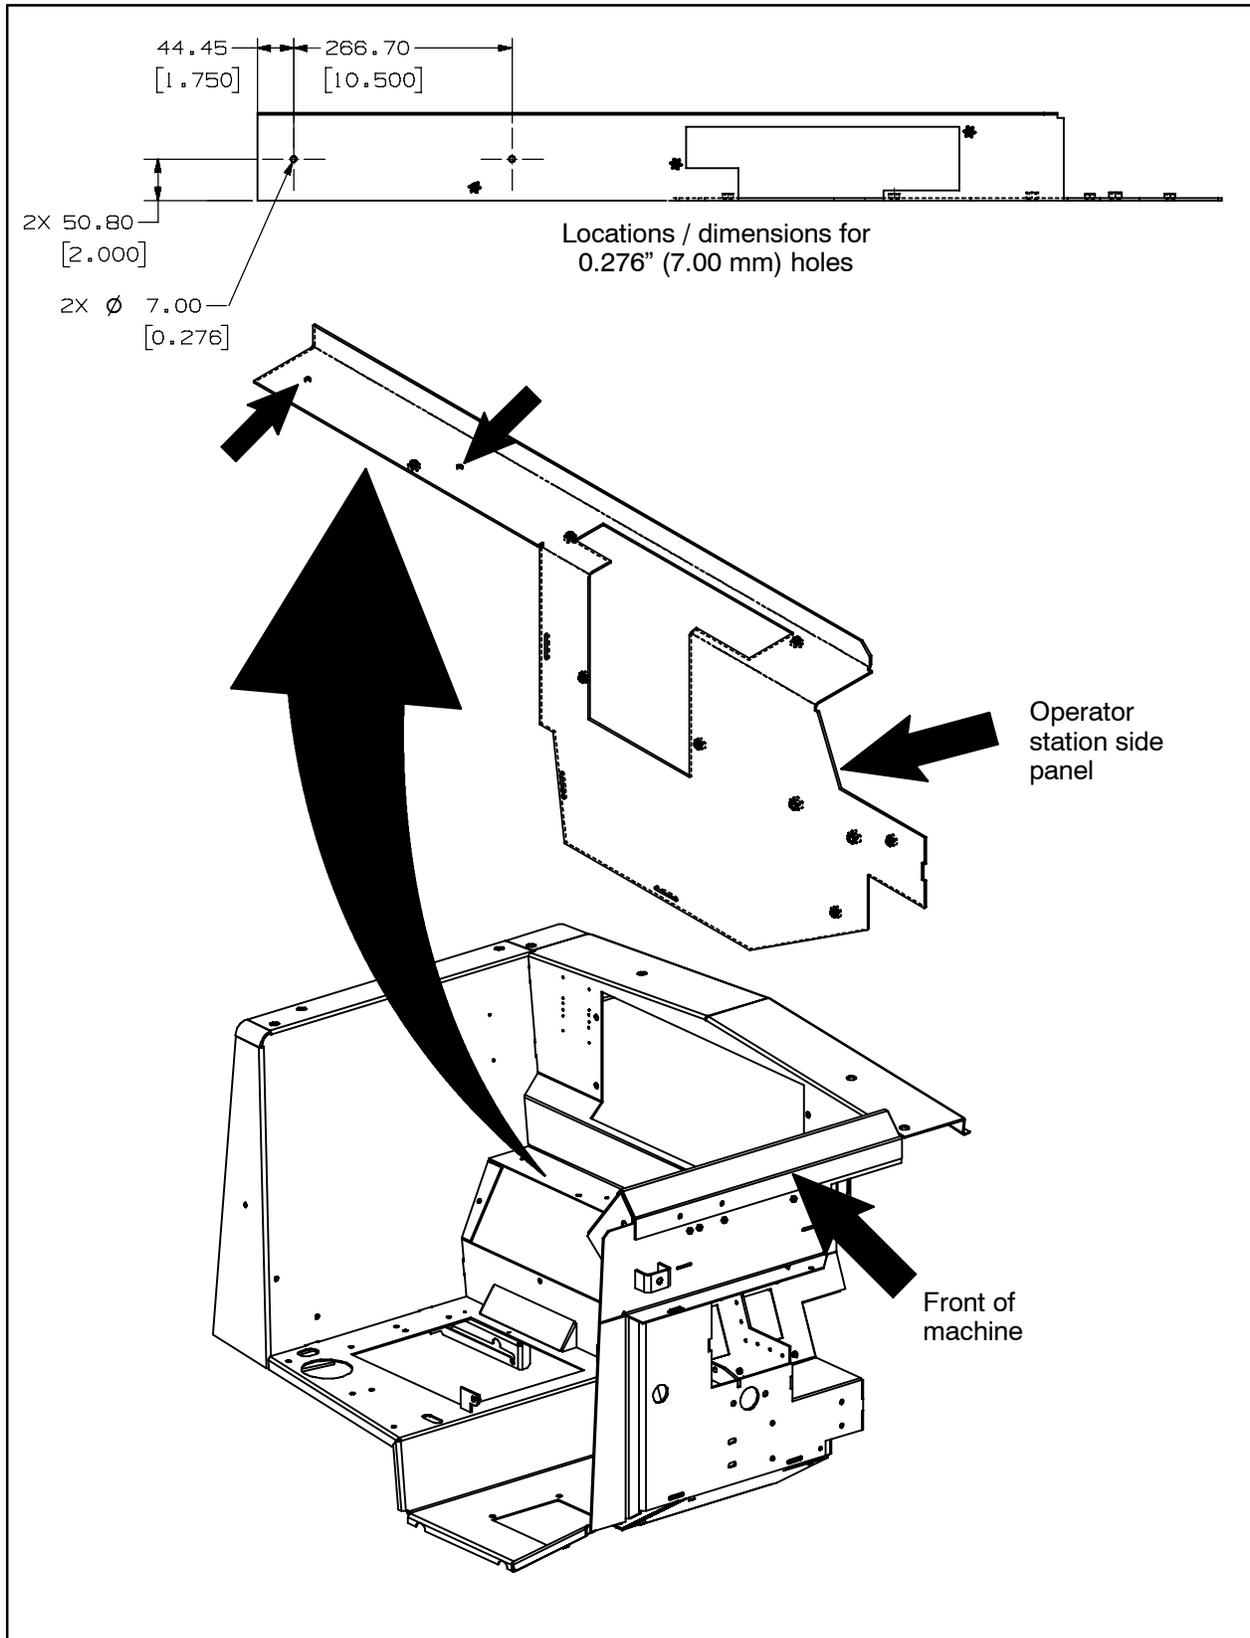

FIG. 5
6. Drill two 0.276" (7.00 mm) holes into the operator station side panel. Refer to Fig. 5.